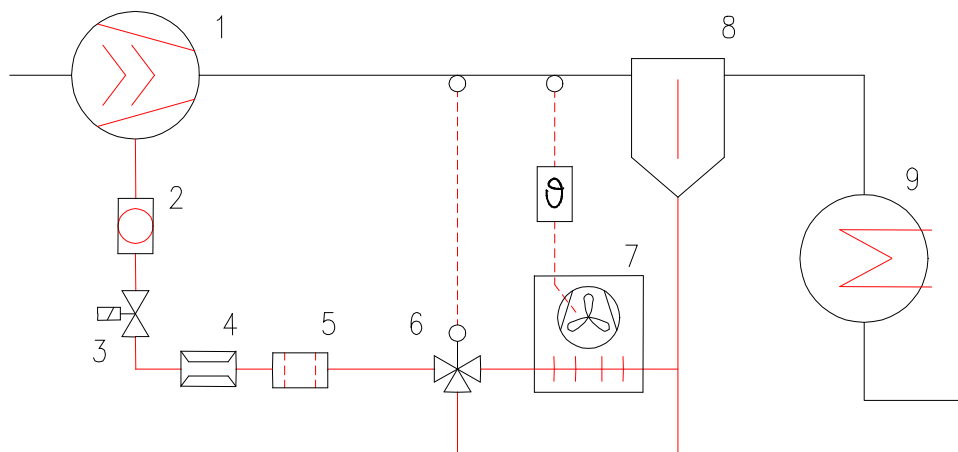

Fig. 45 Schematic layout of air oil cooler
To ensure the rapid heating of the oil when starting (so as to reduce the high pressure drop with cold oil), the cooler should be heated during standstill periods, or the cooler can be bypassed using a modulating 3 way valve (ref. 6 in Fig. 45) that should have a modulating control function thermostatically controlled with high sensitivity and an effective temperature range less than 10 K.